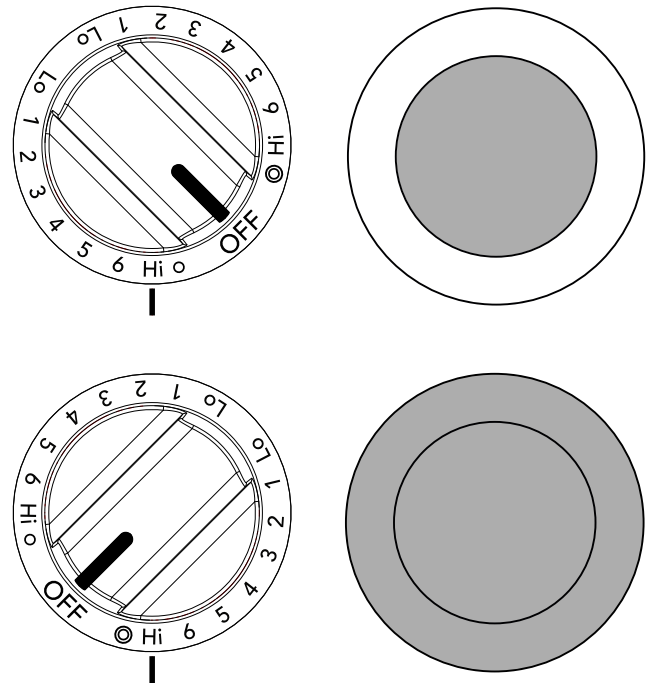

Figure 13: Dual element knob settings
2. Push in and turn the surface control knob clockwise to begin heating both the inner and outer elements. If only the inner element is needed for smaller cookware, push in and turn the knob counter-clockwise (see Figure 13).